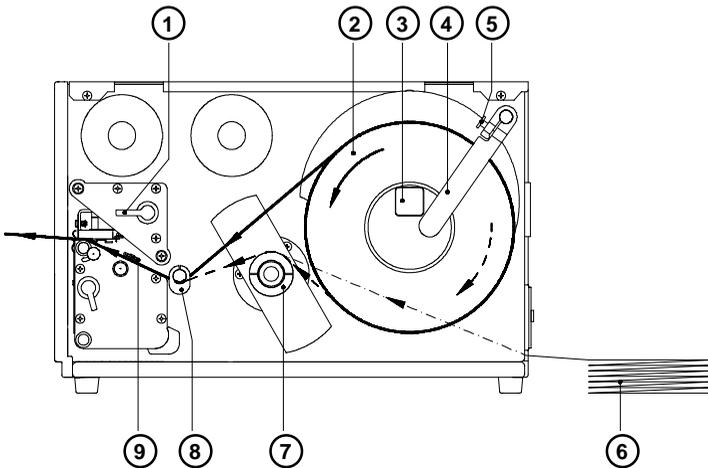

Figure 6a Loading Labels
2. Raise the printhead by rotating the printhead lever (1) clockwise until it stops.
3. Loosen the media retainer knurled screw (5) and swing the media retainer (4) backwards.
4. Place the media roll (2) onto the media hub (3) and slide it against the printer's center wall. The solid line is used for outside-rolled labels, the broken line for inside-rolled labels and the broken dotted line shows the media path for fanfold paper (6). If the optional internal rewinder has been installed, make sure the media is guided above the internal rewind hub (7) when you are loading the media.
5. Swing the media retainer (4) against the media hub and push it inwards until it rests against the side of the roll. Tighten the knurled screw (5).
6. Slide the media guide (8) outward, allowing enough clearance for the label stock's width when loaded.
7. Unroll a length of label stock from the media roll and feed it through as shown in Figure 6a.